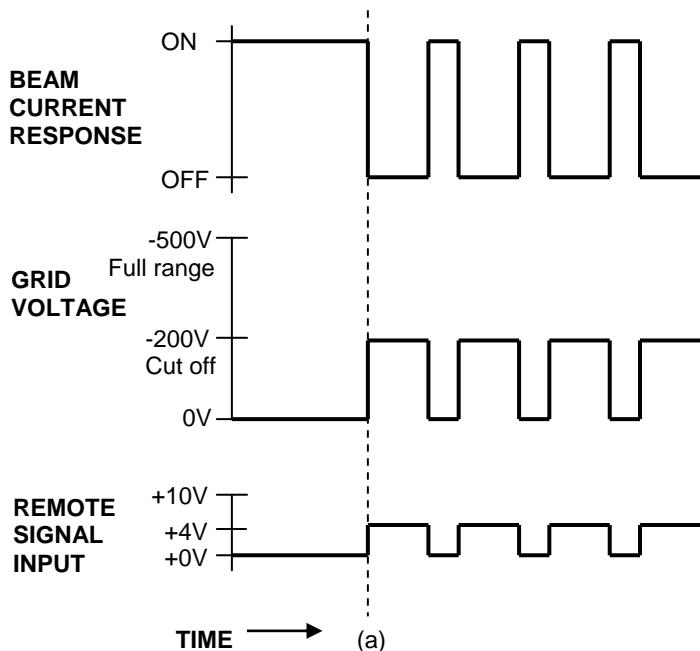

Fig. 4.8-1 Beam Pulsing with Grid Remote Control.
For example, if the grid range is 0 to -500 V, and grid cut-off is -200 V, the beam can be pulsed on and off with computer/remote input pulses of +4 V as shown in Fig. 4.8-1. The voltage that turns on the beam does not need to be zero. The actual values of cut off and beam current will vary with the gun model and operating parameters. (see Data Section)
The Faraday cup assembly, mounted on the front end of the Electron Gun, is positioned by either a rotary feedthrough or a pneumatic actuator assembly, located on one of the 1½ inch (34 mm) conflat flanges on the Flange Multiplexer. The two types of gun-mounted Faraday cup are shown below in Figures 4.8.1 and 4.8.2. The Faraday cup assembly is UHV compatible, and can be heated to 350°C; however, the optional pneumatic cylinder and its external plastic tubing should be removed for bakeout. Some guns which were purchased without a Faraday cup can be modified for the addition of a Faraday cup assembly at the factory.
- a. Apply air pressure to Port "A" and vent Port "B" to position the Faraday cup in the measuring position (in-line position); see Fig 4.8.1